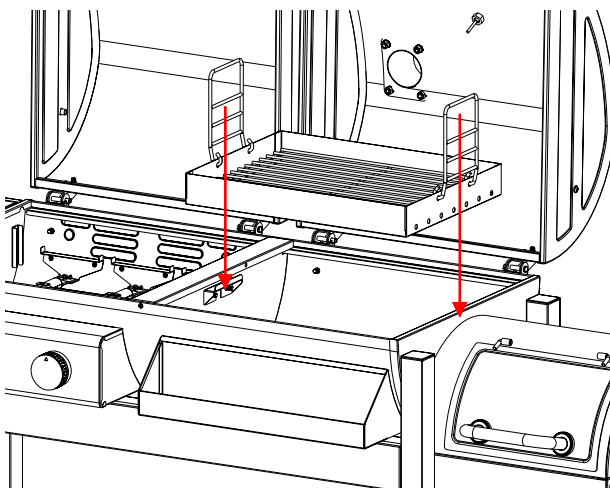

Fig. 25
*Procedure:* Attach the Charcoal Tray onto the Charcoal Tray Supporting Brackets as shown as Fig. 25.